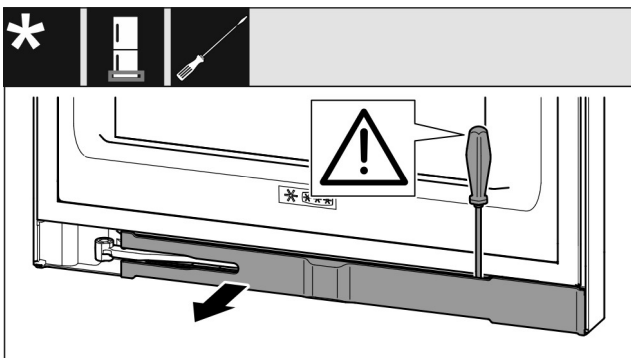

Fig. 14
- ▶ Use a slotted screwdriver to snap out the faceplate and swivel it to the side. (see *Fig. 14*)